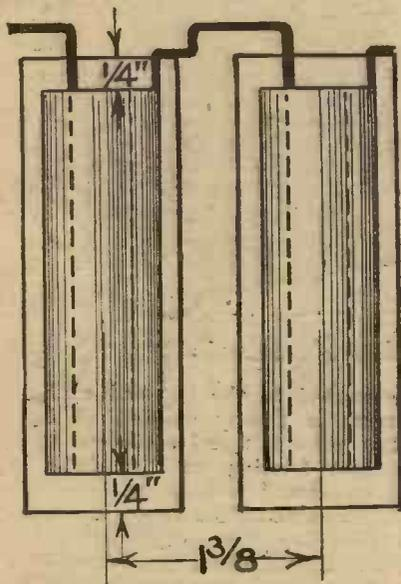

Fig. 5.—A sketch showing the plates arranged in the glass tubes.
The portions A and C must be bent round mandrils to a cylindrical form, the diameter of the larger one being just over $\frac{3}{4}$ in. and of the smaller one just over $\frac{3}{8}$ in. As it is essential to present the largest possible plate surface to the electrolyte, the writer has found it a distinct advantage to serrate the surfaces of the positive and negative plates. This can easily be accomplished if the A and C portions are separately gripped between the jaws of a bench vice. To provide adequate pressure between the vice jaws, a lever, such as a 3-ft. length of conduit or metal piping, should be slipped over the vice handle, and the lead can then be squeezed sufficiently to leave the jaw serrations on the lead surface. With the aid of a wooden mallet, the plates can now be bent round the mandrils, only light taps being given with the mallet, so as not to damage the previously prepared surface of the plates. The larger cylinder will become the positive plate of one cell and the smaller cylinder the negative plate of the adjoining cell, and the lead connecting strip B must now be bent in the form indicated in Fig. 2. The bend serves the purpose of supporting the two plates on the edge of the container, and gives the plates a $\frac{1}{4}$ in. clearance at the base of the container, and will prevent any sediment which may settle at the base from causing a short-circuit. (See Fig. 5.)
from the top of the cylinder A. This strip will form a connection to the positive battery terminal on the outside of the box. The bend should still be made, and this plate with the lead strip extension can be inserted in the glass tube (1) (see Fig. 5). Now add the separator, and take one of the units which have been made to the form shown in Fig. 2, and insert the smaller cylinder in the centre of the